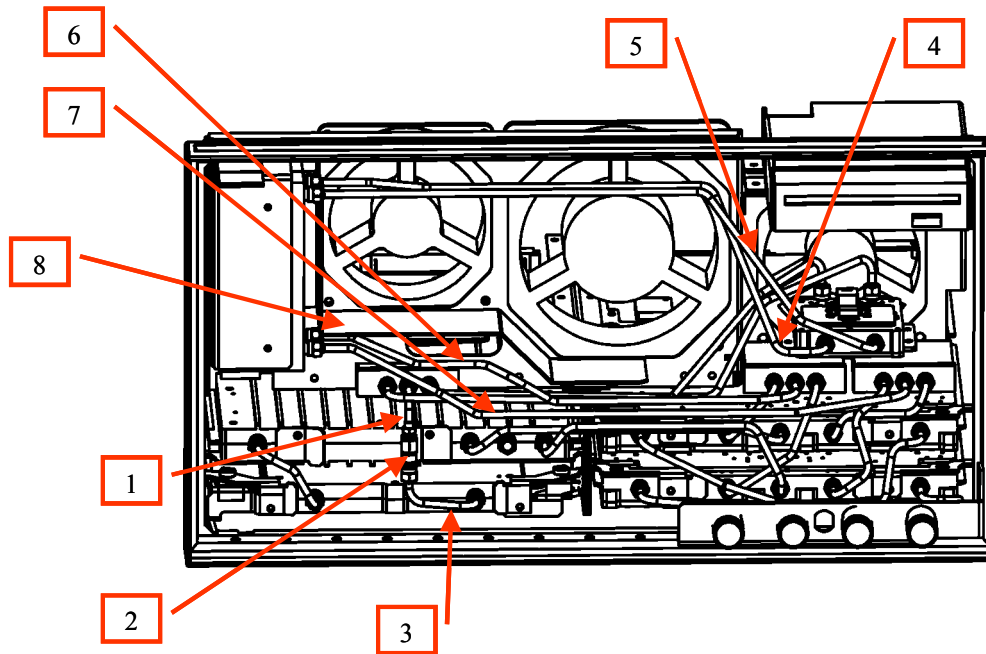

Figure 14 Front View (Semirigid Cables Opt. 413, 414 after modification)
12. Connect A4 and A7 ATT with E5070-61633 (No 4 in Figure14) semi-rigid cable
13. Connect A4 and A7 ATT with E5070-61635 (No 5 in Figure 14) semi-rigid cable
14. Connect ATT and A8 with E5070-61634 (No 6 in Figure 14) semi-rigid cable
15. Connect ATT and A8 with E5070-61636 (No 7 in Figure 14) semi-rigid cable
16. Screw E5070-01223 plate (No 8 in figure 14) instead of E5070-01222
15. Connect A3 and 0955-0301 (removed in step 8) with E5070-61675 (No 3 in Figure 14, see below) semi-rigid cable
16. Connect 0955-0301 and A8 (source side) with E5070-61676 (No 1 in Figure 14)
18. Connect A4 and A7 ATT with E5070-61633 (No 4 in Figure 14) semi-rigid cable
19. Connect A4 and A7 ATT with E5070-61635 (No 5 in Figure 14) semi-rigid cable
20. Connect ATT and A8 with E5070-61634 (No 6 in Figure 14) semi-rigid cable
21. Connect ATT and A8 with E5070-61636 (No 7 in Figure 14) semi-rigid cable
22. Screw E5070-01223 plate (No 8 in figure 14) instead of E5070-01222
Copy of Figure 14 in page 16